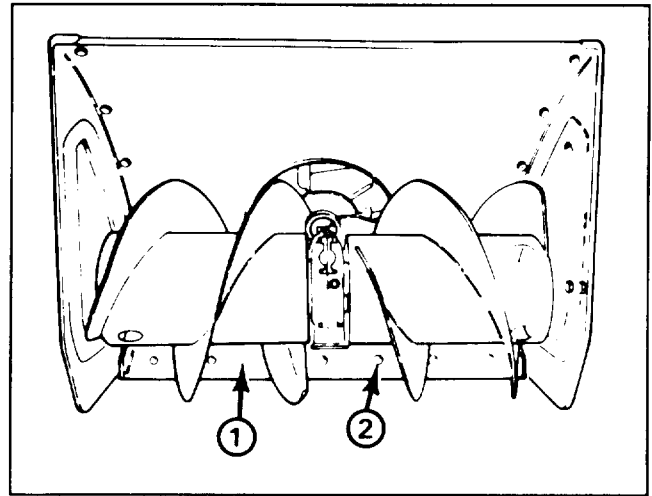

Figure 19
3. Next, loosen the (6) carriage bolts securing the scraper to the auger housing (Fig. 19).
5. When the scraper is adjusted correctly, tighten the (6) carriage bolts securely.
6. Readjust the skids so there is 1/8" between the bottom of the skids and a level surface. Tighten the (4) skid flange bolts securely.